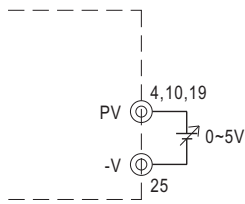

Fig. 3.1 Add on 0-5V external voltage
(1) Connecting an external DC source between PV(4,10,19) and -V(25) on CN500 that is shown in Fig. 3.1.